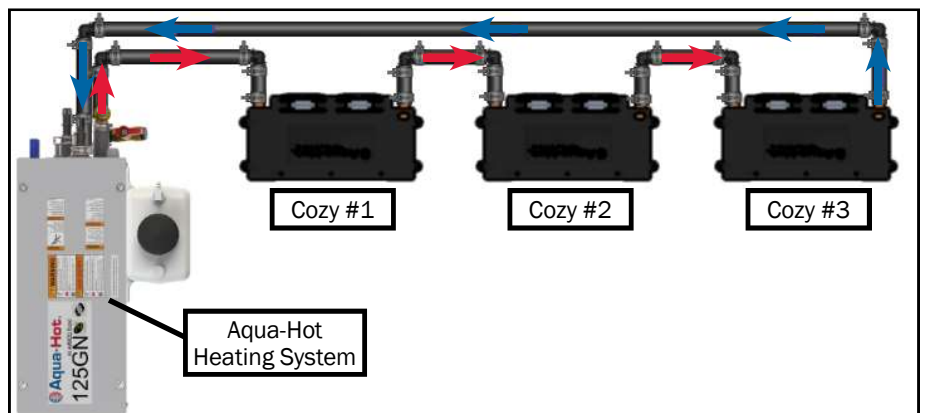

Figure 71
1. Layout the plumbing lines for all heat exchangers (see the example in Figure 71).